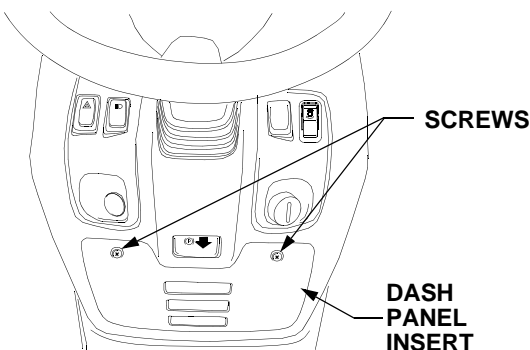

Figure 40
The fuse center is located on the inside *right* of the dash panel. To access the fuse center, remove the dash panel insert by removing the two screws. See Figure 40.
- Remove the dash panel insert by removing the two screws. Refer to Figure 40.